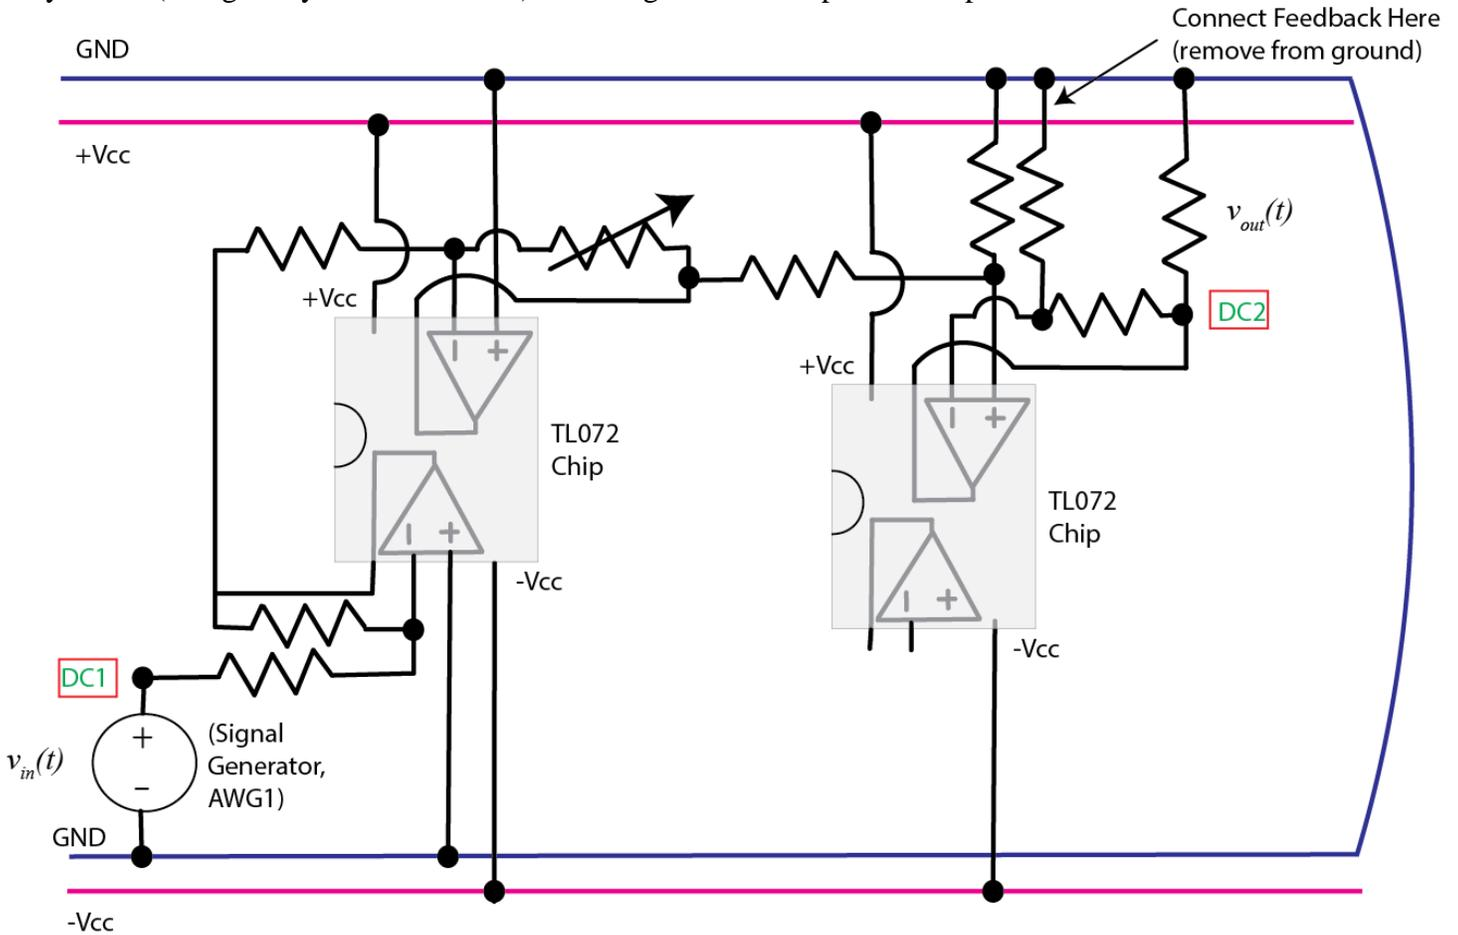

Figure 4. Prefilter and differential amplifier.
5) Now connect the first two parts of your circuit, the prefilter and the differential amplifier, as shown in Figure 4. The output of this combined circuit should match the input. If it is a little off, modify the variable resistor so they match (though they should be close). Do not go on if the input and output do not match.